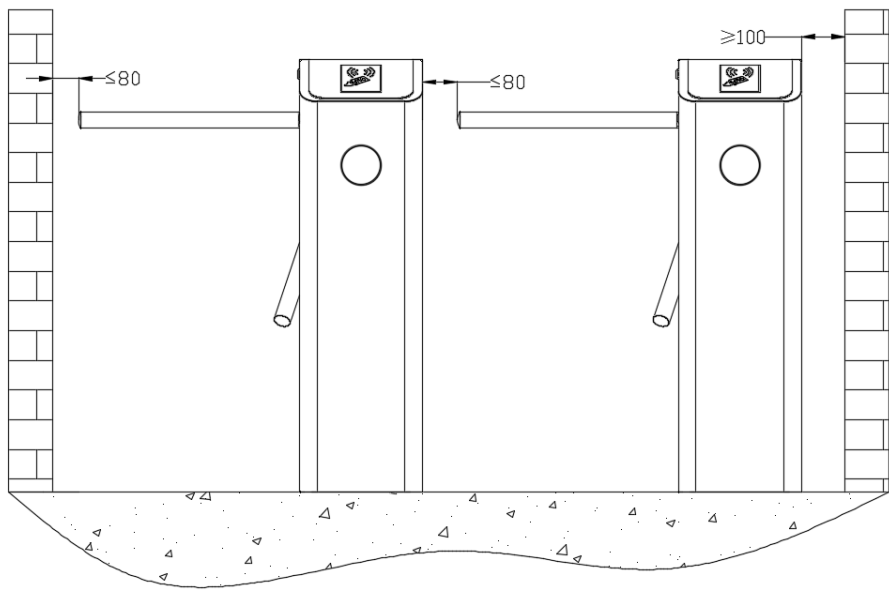

Figure 3-1
The equipment must be installed on concrete ground, ensuring that expansion bolts can be secured firmly. You are suggested to install an assistant framework or fence to form a passageway, as shown in Figure 3-1.
2. The spare space from the end of the arm shall not be greater than 80 mm (see Figure 3-1).